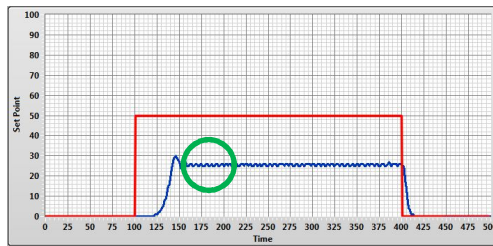

Fig. 26 – Oscillating System
- 4) Increase the $K_p = K_{osc}$ gain until the system starts oscillating. In fig. 26 the red line is the reference and the blue line is the transducer voltage value.